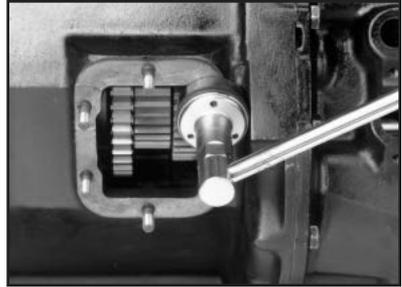

Figure 4
4. Install the six or eight studs until the shoulder of the stud is flush with the transmission mounting surface (**Fig. 4**).